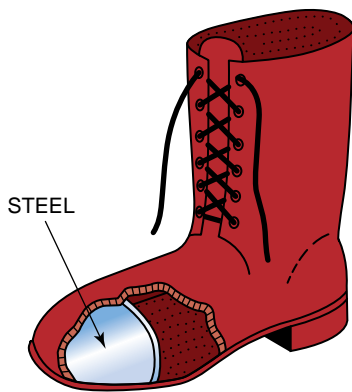

FIGURE 2-25 Safety boots with steel toes are required by many welding shops.
- Boots must have high tops to keep out sparks, have steel toes to prevent crushed toes, **Figure 2-25**, and have smooth tops to prevent sparks from being trapped in seams.